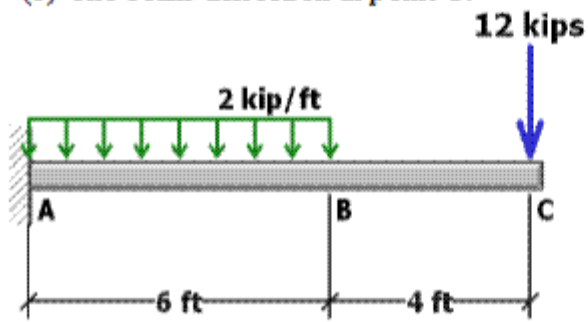

Fig. P10-37
10.37 The cantilever supported beam shown in Fig. P10-37 consists of a rectangular structural steel tube shape ($E = 29,000$ ksi; $I = 476$ in.⁴). For the loading shown, determine